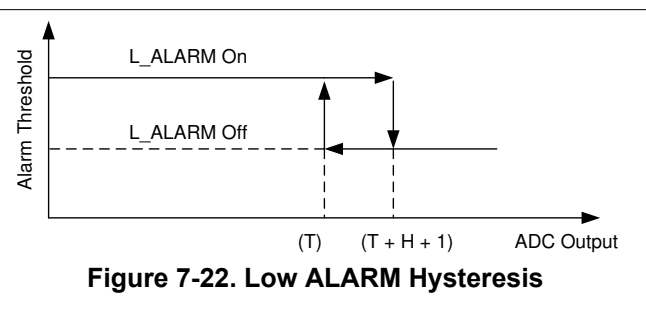

Figure 7-22. Low ALARM Hysteresis
Similarly, the input low alarm is triggered when the digital output falls below the low alarm lower limit [low alarm threshold (T)]. The alarm resets when the digital output is greater than or equal to the low alarm higher limit [low alarm (T) + H + 1]. This function is shown in Figure 7-22.